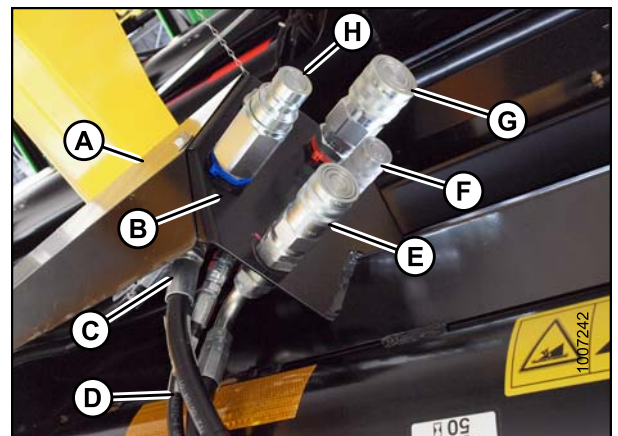

Figure 3.45: Hydraulic Coupler Components
1. Identify the hydraulic coupler components shown in Figure 3.45: *Hydraulic Coupler Components*, page 47.
2. Remove hose cover (A) from left-hand coupler mount.
3. Disconnect the side draper return hose (C) at the main return tee (refer to item [E] in Figure 3.45: *Hydraulic Coupler Components*, page 47).